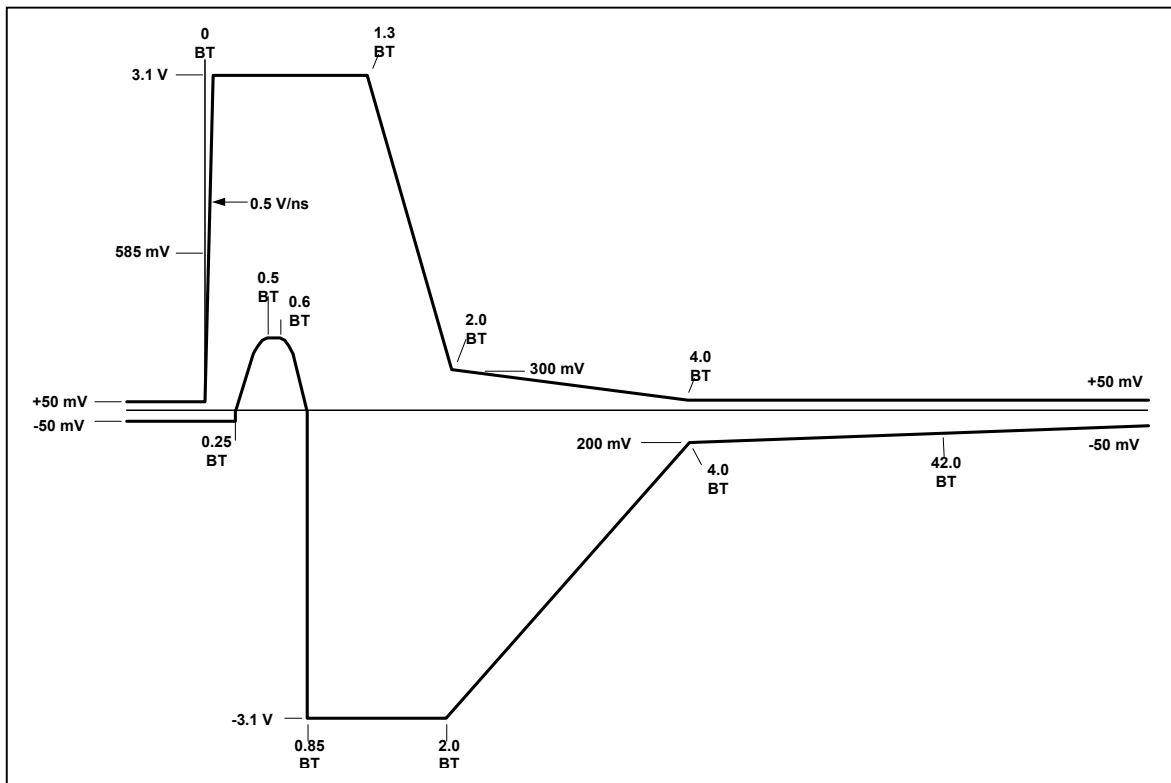
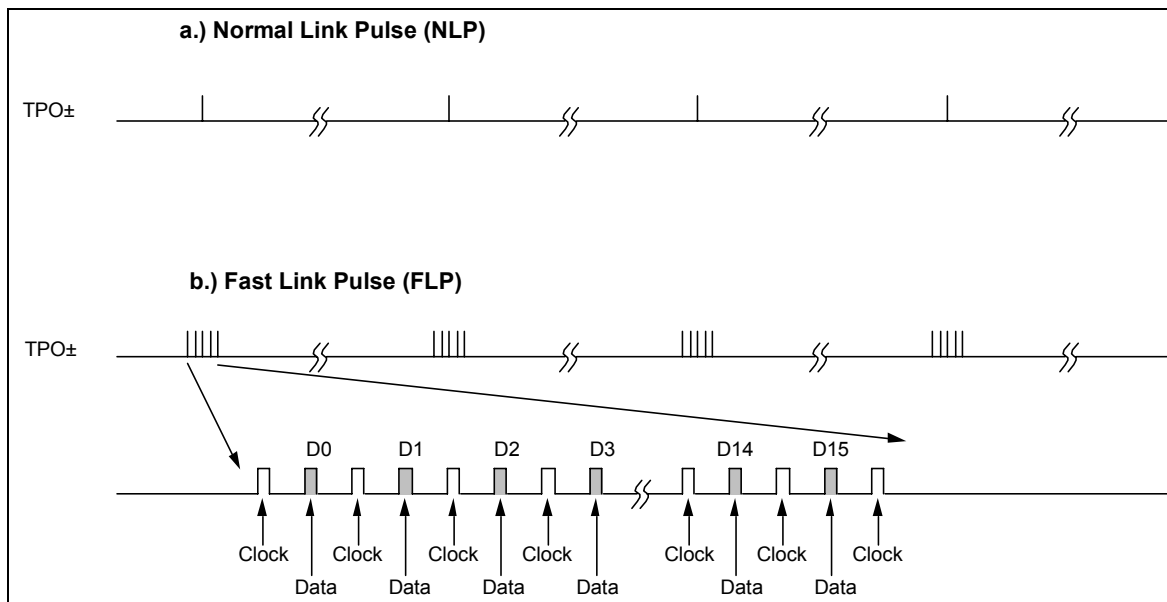

Figure 7.7 - Link Pulse Output Voltage Template - NLP, FLP
Figure 7.8 - NLP VS. FLP Link Pulse
The transmit link pulse meets the template defined in IEEE 802.3 Clause 14 and shown in Figure 7.7. Refer to IEEE 802.3 Clause 14 for more details if needed.
As stated previously, the AutoNegotiation algorithm is used for two purposes: (1) To automatically configure the device for either 10/100 Mbps and Half/ Full Duplex modes, and (2) to establish an active link to and from a remote device. The AutoNegotiation algorithm is the same algorithm that is defined in IEEE 802.3 Clause 28. AutoNegotiation uses a burst of link pulses, called fast link pulses and referred to as FLP'S, to pass up to 16 bits of signaling data back and forth between the LAN91C111 and a remote device. The transmit FLP pulses meet the templated specified in IEEE 802.3 and shown in Figure 7.7. A timing diagram contrasting NLP's and FLP's is shown in Figure 7.8.